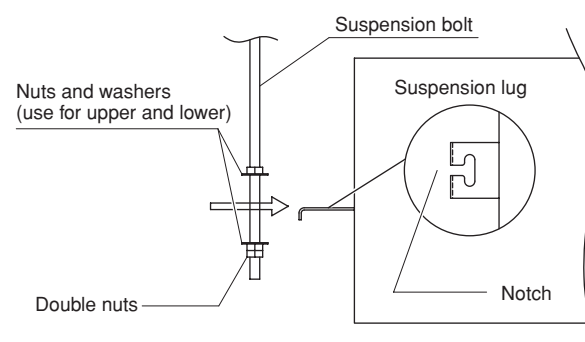

Fig. 3-65
- (3) Thread the 3 hexagonal nuts and 2 washers (field supply) onto each of the 4 suspension bolts as shown in Figs. 3-65 and 3-66. Use 1 nut and 1 washer for the upper part, and 2 nuts and 1 washer for the lower part, so that the unit will not fall off the suspension lugs.